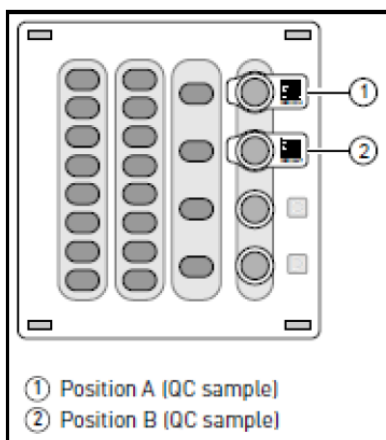

Figure 2. Diagram of Ion 510 & 520 & 530 Chef Reagents Cartridge
9.14.1. Remove the Ion 510 & 520 & 530 Chef Reagents cartridge from the freezer **45 minutes** before use and allow to warm to room temperature. Record the barcode numbers found on the tabs of tube 1 and tube 2 (Figure 2) for entry into the S5 Torrent Server.
9.14.2. Pipet 25µl of each library pool into the bottom of each tubes (Figure 2). Record which pool went into which position for entry into S5 Torrent Server.